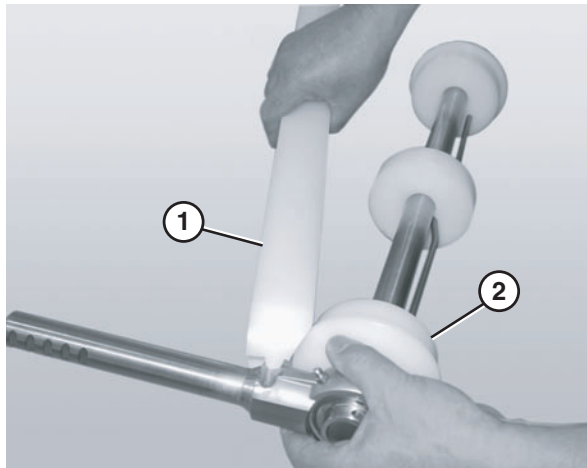

Figure 68
5. Slide the bearing shaft assembly (**Figure 68, item 2**) off the idler shaft.
6. Remove the guard bar (**Figure 68, item 3**).
7. Slide the pucks (**Figure 68, item 1**) off the idler shaft.